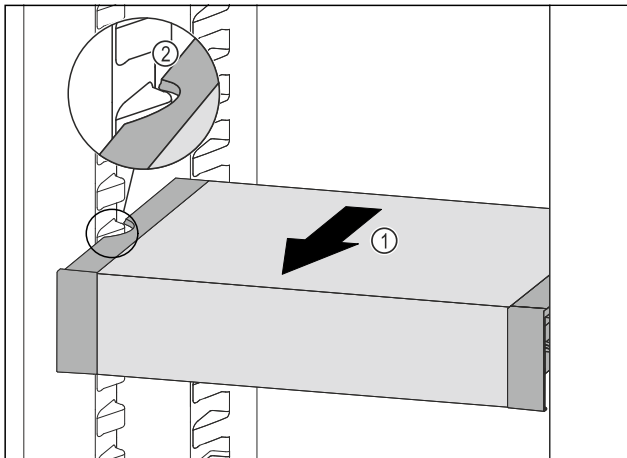

Fig. 99
- ▶ Pull VarioSafe forward Fig. 99 (1) until the recesses in the side of the VarioSafe are at the level of the support rib in the refrigerator compartment. Fig. 99 (2)